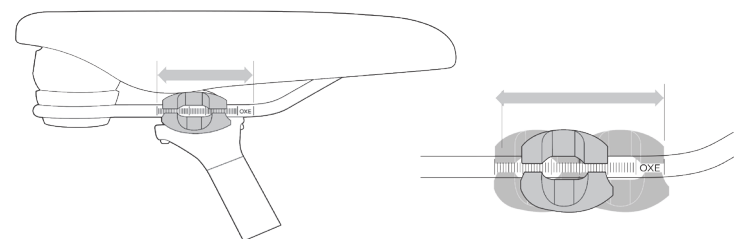

fig. 5
2. Front and back adjustment. The saddle can be adjusted forward or back to help you get the optimal position on the bike. Ask your dealer to set the saddle for your optimal riding position and to show you how to make this adjustment. If you choose to make your own front and back adjustment, make sure that the clamp mechanism is clamping on the straight part of the saddle rails and is not touching the curved part of the rails (fig. 5), and that you are using the recommended torque on the clamping fastener(s) (Appendix D or the manufacturer's instructions).